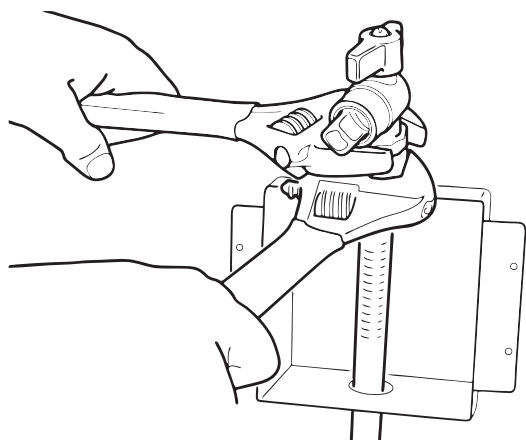

Figure: 4-35
5. Thread ball valve onto nut and tighten so valve outlet faces forward. It is recommended that crescent wrenches be used to avoid damaging valve or nut (Figure 4-35).